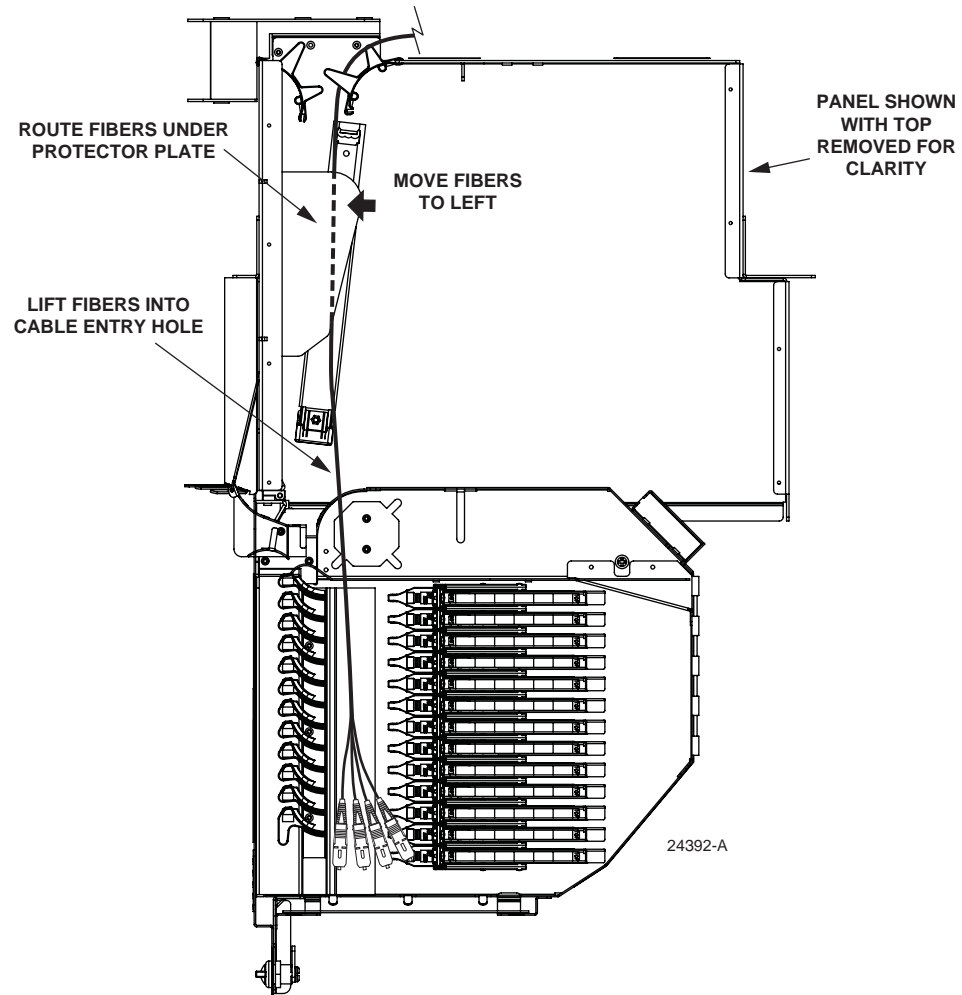

Figure 29. Positioning IFC Cable Within 13-Slot MicroVAM Chassis
5. At the front of the panel, lift the cable up over the top edge of the hinged drawer and move the cable to the cable entry hole on the left side of the drawer, as shown in Figure 29.